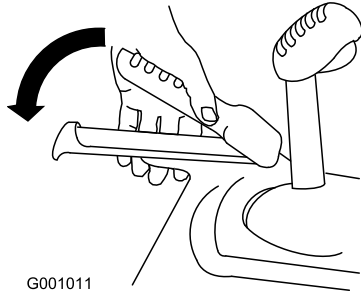

Figure 28
1. To engage the traction drive, squeeze the left hand (traction) lever to the handgrip (Figure 28).